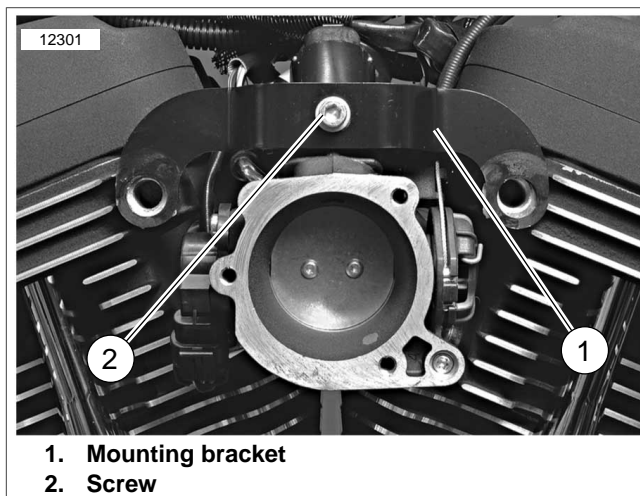

Figure 4-24. Induction Module Mounting Bracket
6. See Figure 4-24. Remove screw (2) and mounting bracket (1).